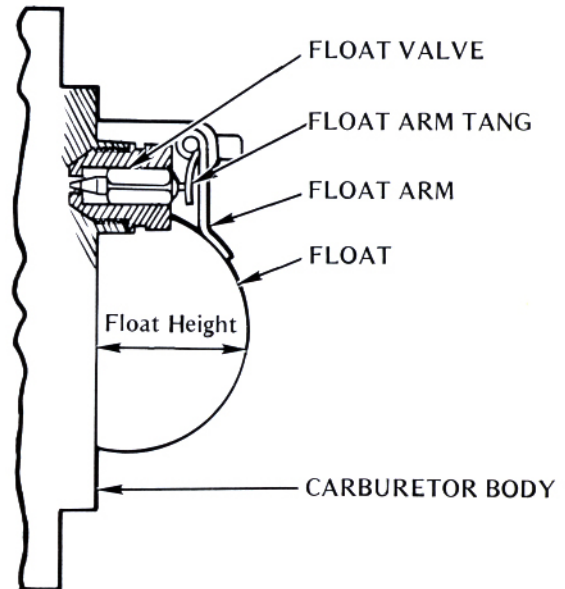

FIG. 9 Float Height
Because it is not possible to see the actual level of the fuel within the float chamber (unless one attaches a sight tube), float adjustment specifications are usually given in terms of the distance between the carburetor body and the bottom of the float when the float arm just closes the valve (Fig. 9).
1. Hold the carburetor with its bore in the vertical position, so the float arm tang will just close the float valve without compressing the spring loaded pin in the end of the float valve needle (Fig. 9).